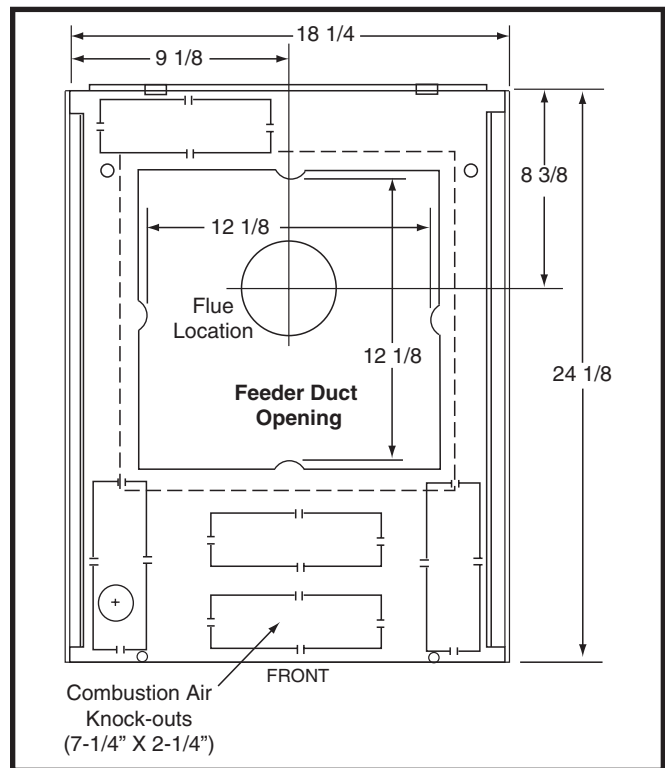

Figure 4. MA-200 Base Pan
1. Using the base pan (Figure 4) as a guide, locate and mark the 12 1/8" x 12 1/8" opening for the Feeder Duct.